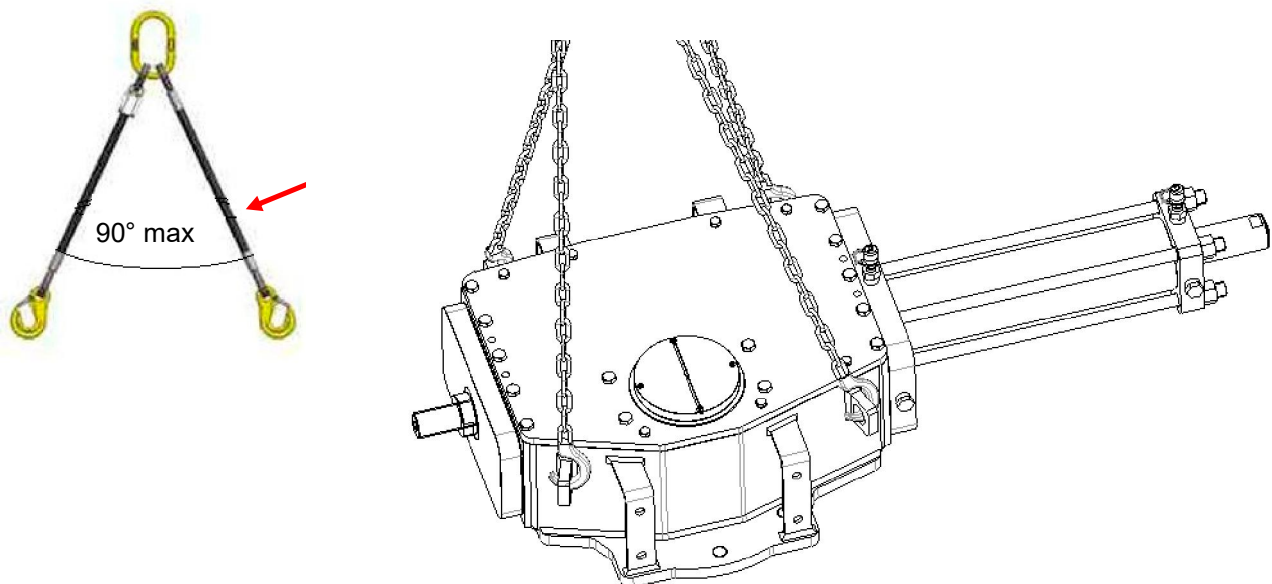

Fig. 2 – Lifting points for RTQH actuator series
<p>Warning</p> 	<p>The lifting and handling must be made by qualified staff and in compliance with the laws and provisions in force.</p> <p>Lift the actuator as shown in Figure 2 taking care that the maximum opening angle between the chains remains below 90°.</p> <p>The lifting points are appropriate for the lifting of the actuator alone and not for the valve + actuator assembly.</p> <p>Avoid that during the handling, the actuator passes above the staff.</p> <p>The actuator should be handled with appropriate lifting means considering the mass of actuator. The mass is printed on the label of the actuator.</p> <p>The mass is also reported on the delivery bill and on overall-dimensions drawings furnished with the documents accompanying the actuator.</p> <p>In case the information regarding the weight is missing consult www.stiactuation.com for base actuators or ask this information at info@stistrumentazione.com</p>
- Conditions in which the machinery meets the requirement of stability during use, transportation, assembly, dismantling when out of service, testing or foreseeable breakdowns, are shown in Fig.2.